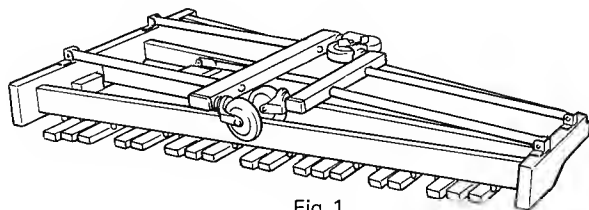

Fig 1
- 1 Place the instrument upside down on the floor. (Fig 1)